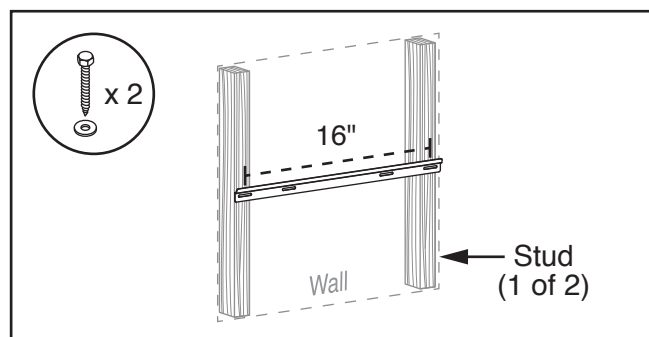

Figure 5. Positioning mounting bracket.
3. Mark locations for a minimum of (2) pilot holes through mounting bracket (see **Figure 5**). Place level on bracket when marking holes to help maintain uniformity.